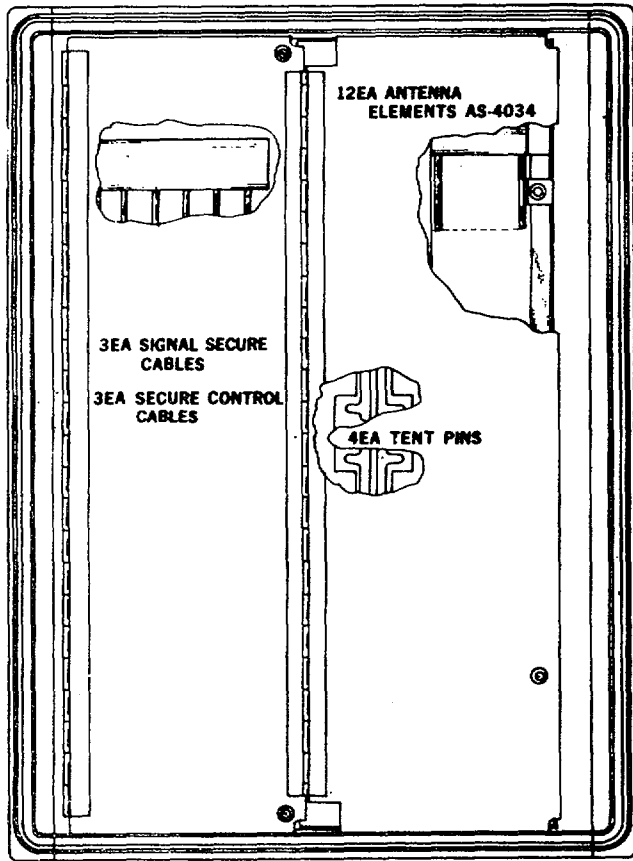

Figure 2-2. Front Cover Storage Items
b. Front Cover Stored Items. Stored within the front cover are 6 cables for X-mode communications use, 4 anchor pins and 12 Antenna Elements AS-4034/ TSQ-97. See figure 2-2.